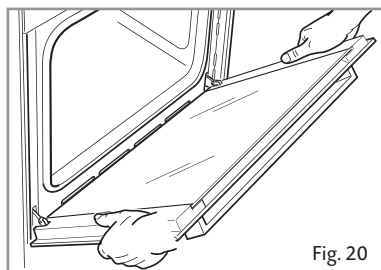

Fig. 20
- Hold the door as shown in fig. 20.